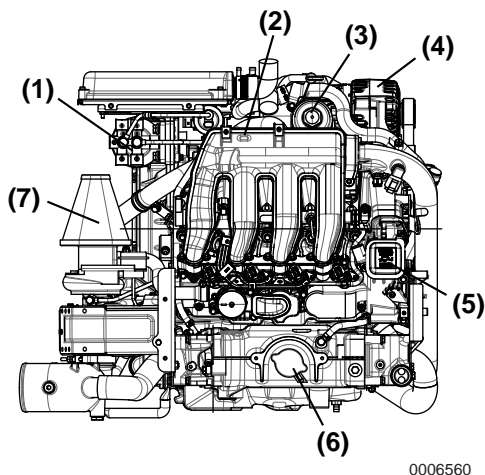

Figure 3
Note: Yanmar supplies a water-separating pre-filter for mounting by the installer. The engine is equipped with an on-engine fine filter (Figure 3, (1)).